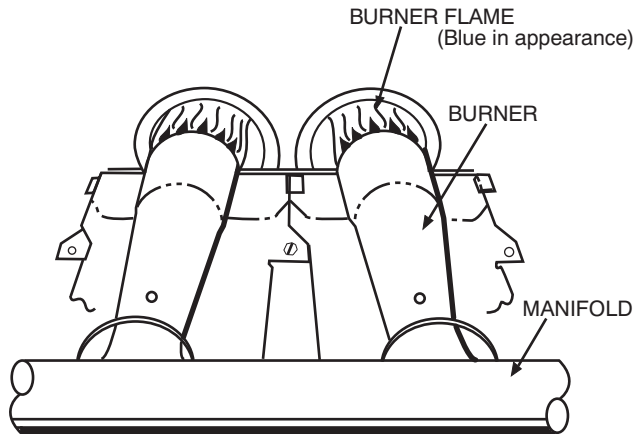

Fig. 14 - Monoport Burner
33. With control access panel removed, observe unit heating operation in both low stage operation and high stage operation. Watch burner flames to see if they are blue in appearance, and that the flames are approximately the same for each burner (see Fig. 14).